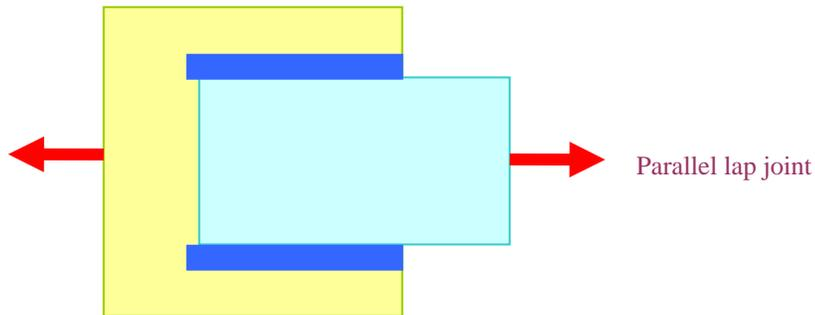

Figure 10.3.1: Different types of lap joints
- a) *Lap or fillet joint*: obtained by overlapping the plates and welding their edges. The fillet joints may be single transverse fillet, double transverse fillet or parallel fillet joints (see figure 10.3.1).